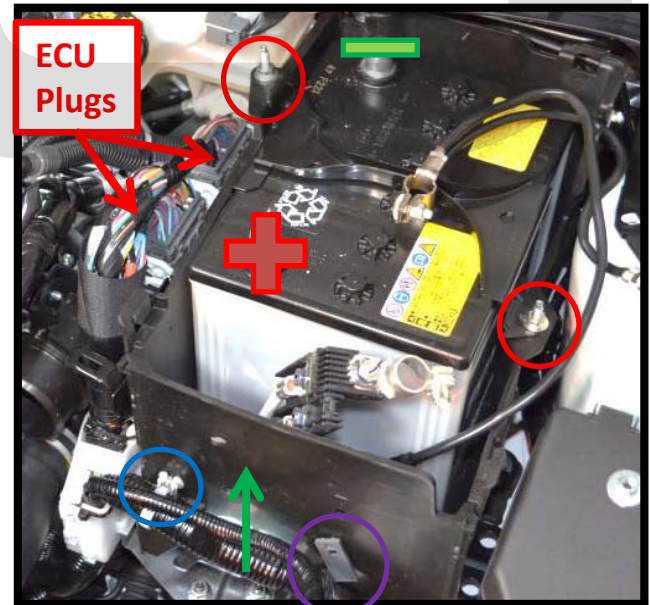
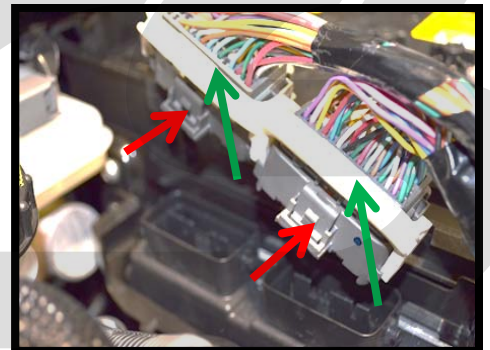

Figure 2b
Figure 2c
- c) Remove the two 10mm nuts for the battery tie down bracket (shown with red circles in Figure 2b).
- j) Install the front cover onto the battery box and snap the wiring harness clips into place (shown in Figure 2b).
- b) **Disconnect the battery.** Disconnect the battery terminals with a 10mm end wrench. Refer to Figure 2b for negative (-) and positive terminals (**+**). Disconnect the negative terminal of the battery first, then the positive terminal (**Figure 2b**).
- c) **Remove the two 10mm nuts for the battery tie down bracket** (shown with **red circles** in **Figure 2b**).
- e) **Remove the front battery box panel.** Remove the MAF wiring harness clip (**blue circle Figure 2b**), and negative battery cable clip (**purple circle Figure 2b**), from the front battery box panel using needle nose pliers to compress the clips on the inside of the battery box. Then slide the panel upwards and remove it (**green arrow in Figure 2b**).
- f) **Disconnect the ECU plugs** by pushing on the tabs (**red arrows in Figure 2c**) and pulling the white lock upward simultaneously (**green arrows in Figure 2c**). Refer to **Figure 2b** for location of ECU plugs and **Figure 2c** for close ups.
- h) Install the ECU connectors and latch the cam locks to seat the connectors into the ECU. Install the ECU cover over the connectors (shown in Figure 2c).
- j) **Install the front cover onto the battery box and snap the wiring harness clips into place** (shown in Figure 2b).